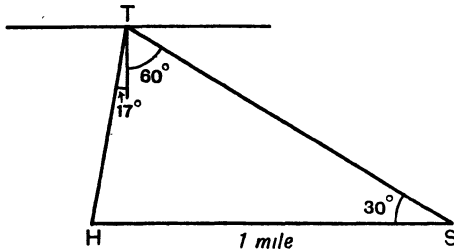

FIG. 104. DIAGRAM FOR EXAMPLE 2
2. A boy usually walks home from school along a path running due west for a mile. Sometimes it is flooded and he goes along a road which runs from school W. 30° N. He then turns left along a road which runs S. 17° W., and takes him home, Fig. 104. How much farther has he to walk when the usual path is flooded?